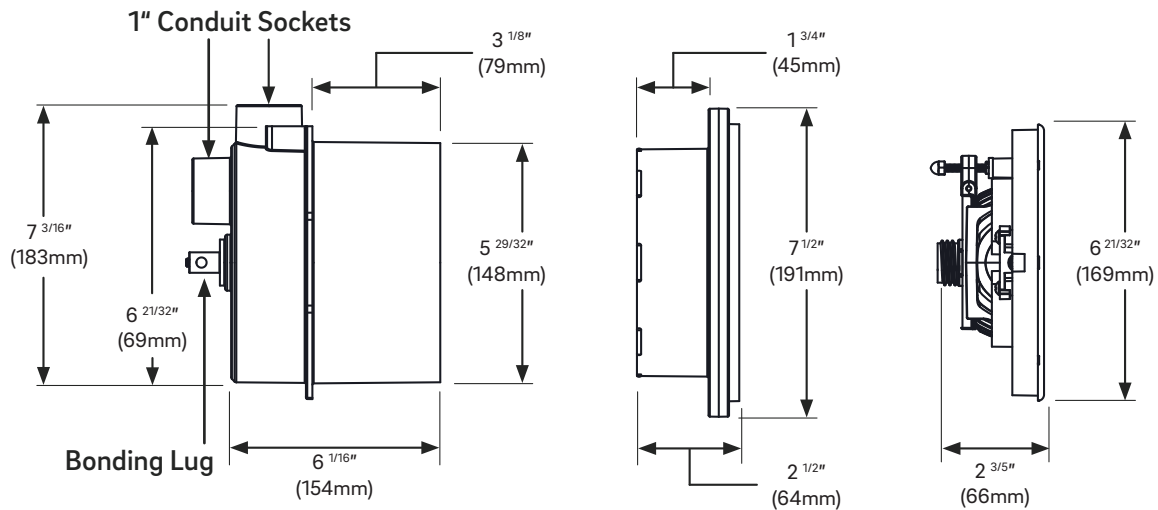

Figure 4
2. The QuikBrite niche has two conduit ports. Drill-out only the interior tab of the port that is to be used, leave the other tab intact. The niche will accept 1" PVC electrical conduit. Do not use flexible conduit. Attach conduit and securely connect the bonding wire to the niche's outside bonding connector (Figure 4).